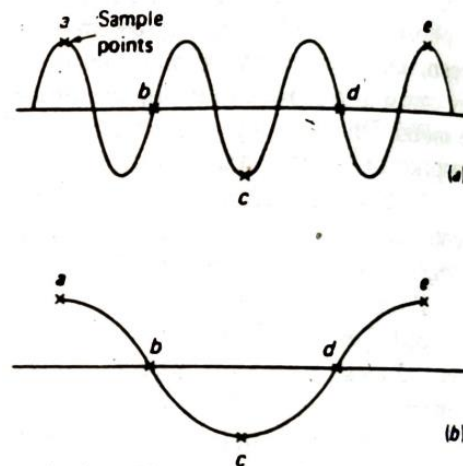

Figure 32
- If this is not done **aliasing** will result, which is shown in fig. 32.